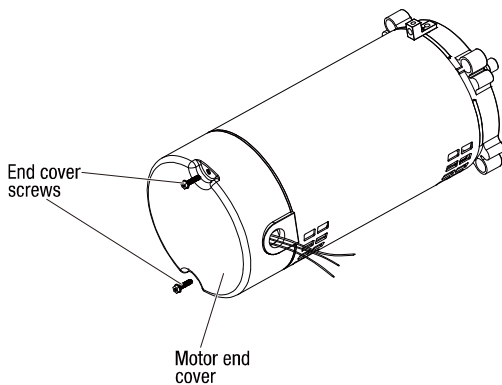

FIG.1
- Remove the motor end cover. (FIG.1)